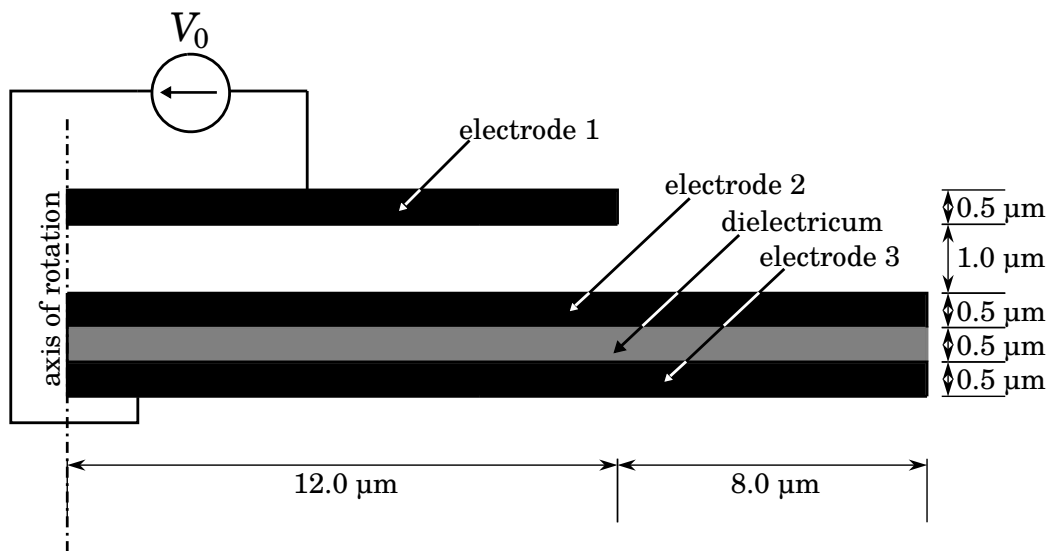

Figure 1: Cylindrical capacitor
The following assembly consists of a **cylindrical** capacitor with three aluminum electrodes. The space between the middle and the ground electrode is filled with the dielectric material strontium titanate (SrTiO_3). The remaining space is filled with air. Between the top and the ground electrode a constant voltage of V_0 is applied. The potential at the middle electrode is unknown but can be assumed to be uniform on the whole electrode. The dimensions of the capacitor can be seen in Fig. 1.
- 1.1. Derive an **analytic formula** to estimate the capacitance of the assembly shown in Fig. 1. You can assume that electrode 1 and electrode 2 form a plate capacitor of radius r_1 and electrode 2 and electrode 3 another plate capacitor of radius r_2 . How do you have to connect these two capacitors and what is the resulting formula for the overall capacitance of the setup depending on r_1 and r_2 ?
To simulate the capacitor in Fig. 1 in COMSOL Multiphysics:
- 2.1. Define all parameters you need in the **Parameters 1** node. This should include geometric parameters (see Fig. 1) as well as the element size parameters **elem_size**. Set the element size to $0.2 \mu\text{m}$. Additionally add a parameter for the boundary size **h_boundary**.
- 2.2. Model the geometry as shown in Fig. 1. Each electrode should be modeled with its own **Rectangle**.